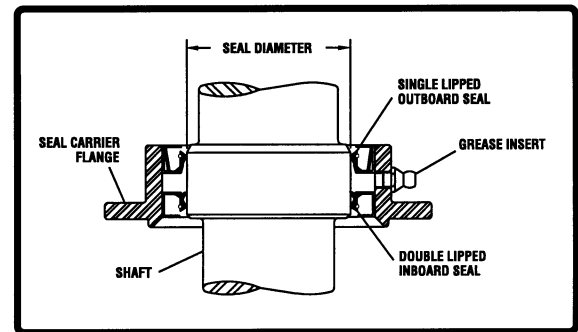

Figure 6.2.5 Placement of Seal Carrier Assembly onto Shaft
4. When the seal carrier is piloted on the shaft pilot, seat the seal carrier by slowly pressing down on the flange (reference Figure 6.2.5).